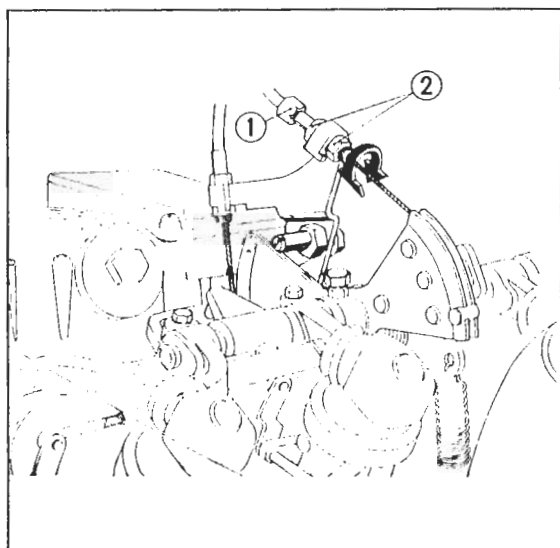

Fig. 20-20 Throttle cable adjustment
2. Turn the adjuster nut at the carburetor end to provide a **0.12–0.16 in. (3–4 mm)** play at the grip flange. (Fig. 20-20)